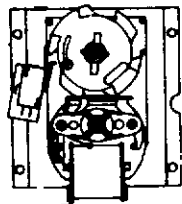
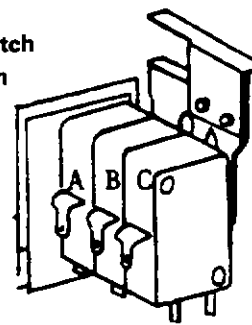

Figure 1
Figure 2
1. See Vend Motor and cluster switches in stand-by position Figure 1 and Figure 2.
Arm of Vend Motor Switch A is in cam notch - Figure 2
Arm of Cam Hold Switch B is on top of cam - Figure 2
Arm of By Pass Switch C is on top of cam - Figure 2